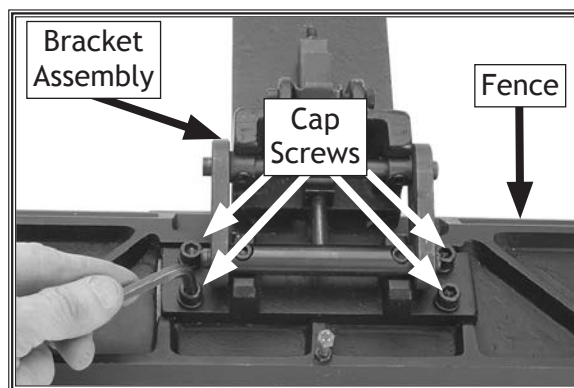

Figure 12. Attaching the fence bracket assembly to the fence.
5. Use the remaining four M8-1.25 x 20 cap screws and 8mm lock washers to attach the fence to the fence bracket assembly, as shown in **Figure 12**.